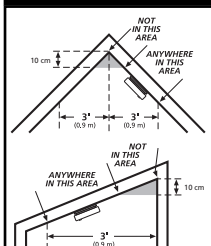

FIGURE 2
- Install Smoke Alarms on sloped, peaked or cathedral ceilings at or within 0.9m of the highest point (measured horizontally). Smoke alarms in rooms with ceiling slopes greater than 0.3m in 2.4 m horizontally shall be located on the high side of the room. A row of detectors shall be spaced and located within 0.9m of the peak of the ceiling measured horizontally (see figure 2).
If you are not sure about the insulation in your mobile home, or if you notice that the outer walls and ceiling are either hot or cold, install the alarm on an inside wall. For minimum protection, install at least one alarm close to the sleeping rooms. For additional protection, see SINGLE FLOOR PLAN in figure 2.